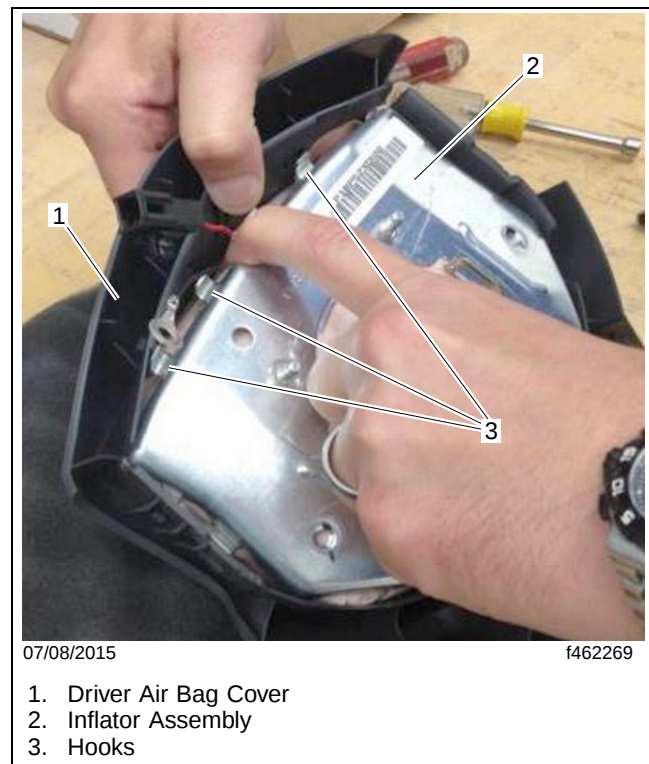

Fig. 6, Removing the Inflator Assembly
- 12.4 Slowly pull the inflator assembly up, making sure that the hooks are clear from the windows on all sides. See **Fig. 6**.